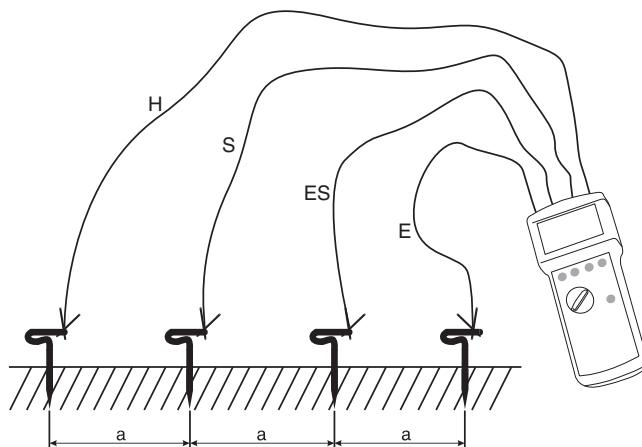

Figure 7: Specific Earth resistance measurement
- Place the four earth rods for E, ES, S, H in one line, in accordance with Figure 7. The distance between each probes must match the value used in the formula. Carefully place the test leads making sure that the test leads are not parallel to each other and do not cross to avoid coupling.
- Connect test leads to earth rods according to figure 7.
- Select "4 pole" measurement by using selection switch (13).
- Set contact voltage by using key "UL" (11).
- If required choose manual frequency selection by using key "auto/man" (16), and select test frequency with key "f1/f2" (12).
- After the measurement, selection can be made between display of earth resistance (RE), auxillary resistance (RS) and measurement current (IM) by using key "Display" (8), depending on the measurement result.